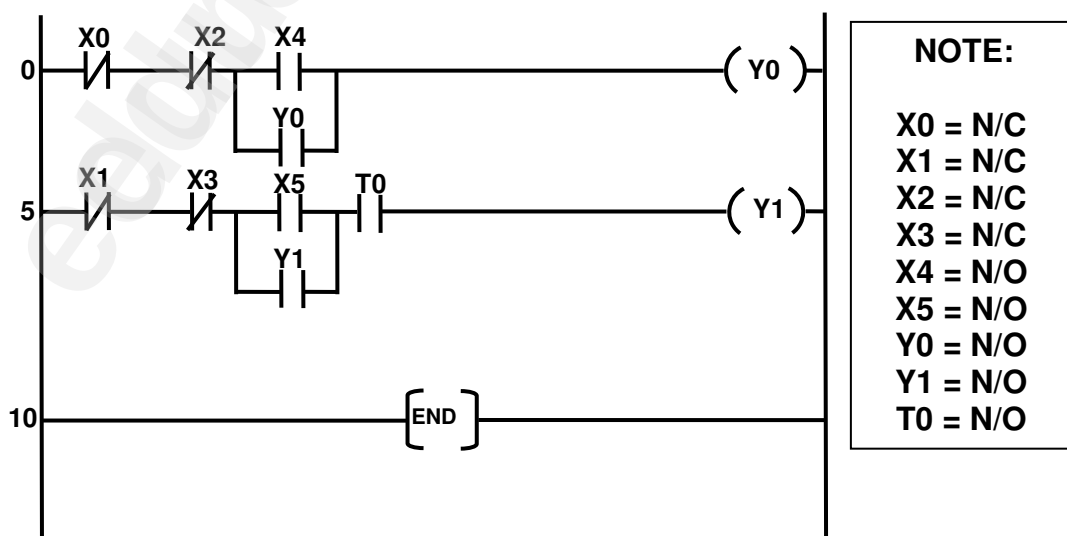

FIGURE 9.2: LADDER LOGIC PROGRAM FOR SEQUENCE CONTROL
9.5 Draw the circuit diagram that represents the ladder logic program in FIGURE 9.2.